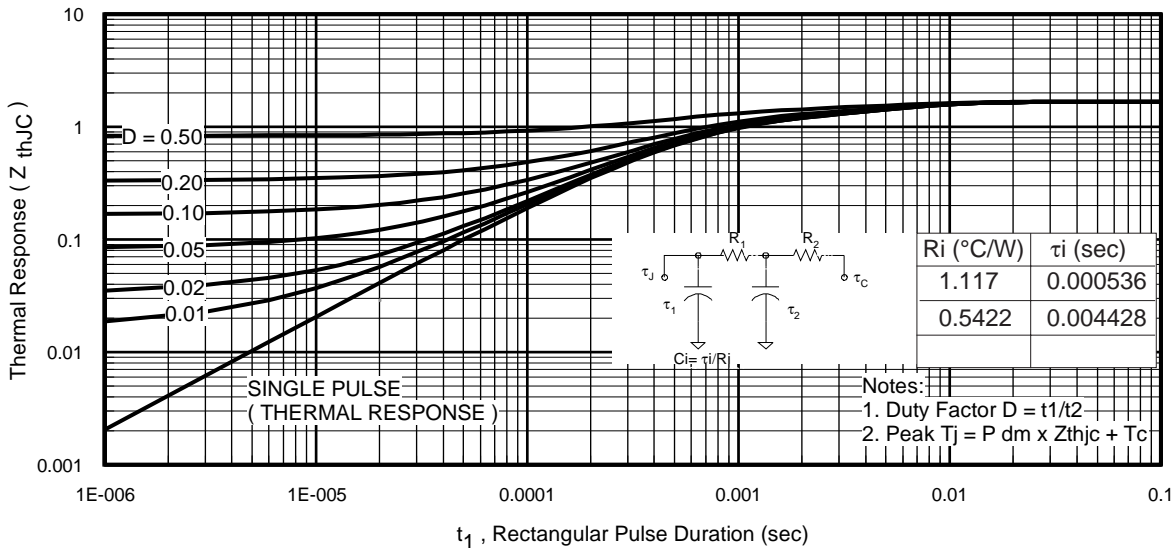

Fig 11. Maximum Effective Transient Thermal Impedance, Junction-to-Case
$Z_{thJC}(D, t_{av})$ = Transient thermal resistance, see figure 11)
- ① Repetitive rating; pulse width limited by max. junction temperature. (See fig. 11).
- ② Limited by T_{Jmax} ; starting $T_J = 25^\circ\text{C}$, $L = 0.09\text{mH}$, $R_G = 25\Omega$, $I_{AS} = 42\text{A}$, $V_{GS} = 10\text{V}$. Part not recommended for use above this value.
- ③ Pulse width $\leq 1.0\text{ms}$; duty cycle $\leq 2\%$.
- ④ C_{oss} eff. is a fixed capacitance that gives the same charging time as C_{oss} while V_{DS} is rising from 0 to 80% V_{DSS} .